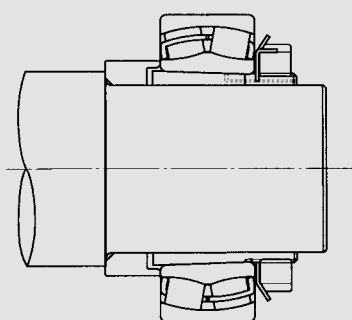
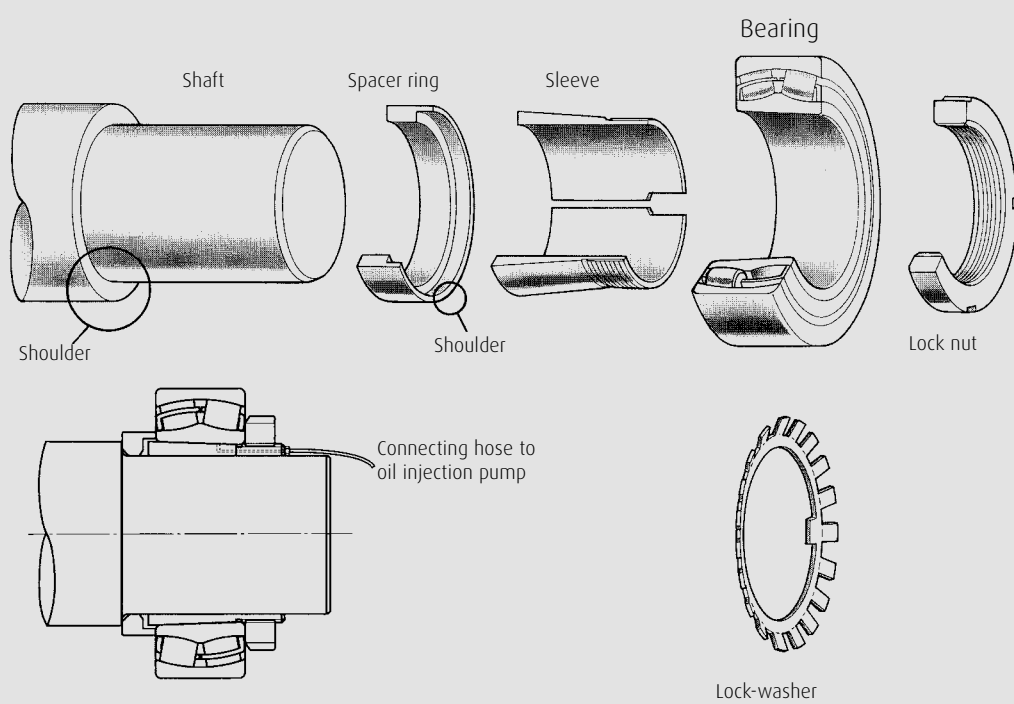

Fig. 6.13 Assembly view
Fig. 6.14 Oil injection pump method
c) Oil injection method (Fig. 6.13 and Fig. 6.14)